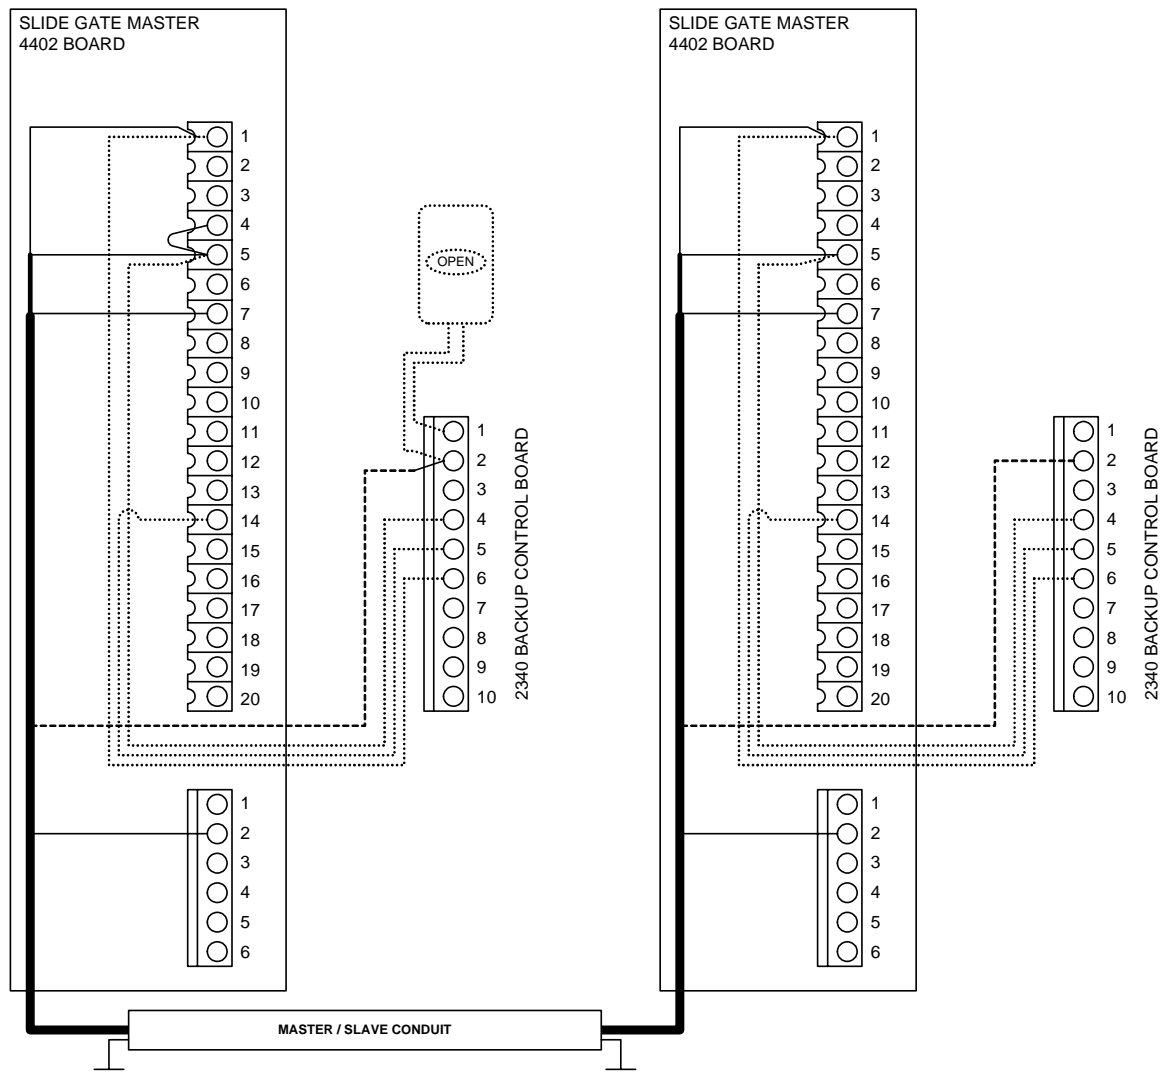

Figure 6
- Slide gate systems use two master operators rather than a master-slave combination to create bi-parting slide gates. Wire slide gate master / master operators as shown in Figure 6. Color code shown assumes the use of DoorKing master / slave cable. Order part number 2600-755 (30 ft.), 2600-756 (40 ft.), 2600-757 (50 ft.).